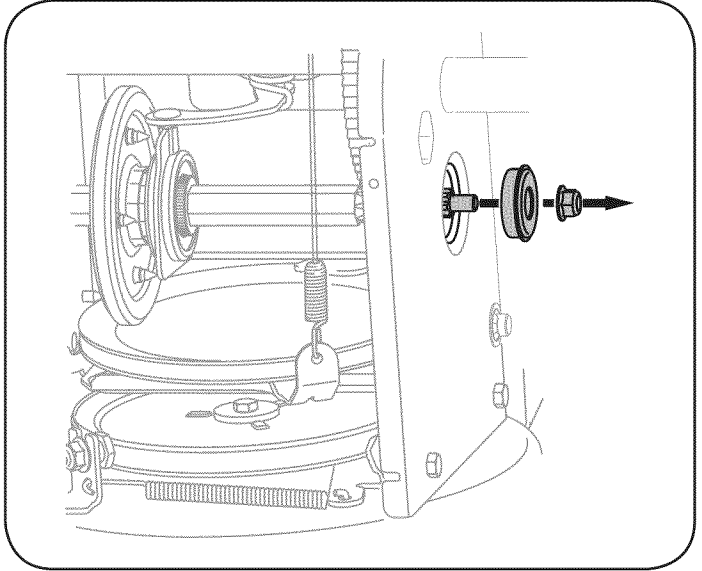

Figure 35
6. Carefully remove the hex nut and washer which secures the hex shaft to the snow thrower frame and lightly tap the shaft's end to dislodge the ball bearing from the right side of the frame. See Figure 35.